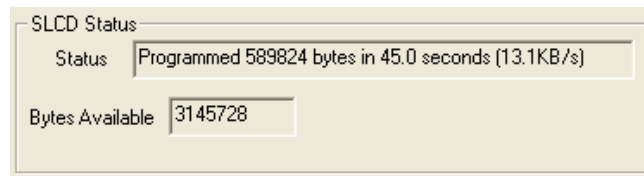

Figure 2-12
Step 7 - (If Required) If the connection in Step 5 is successful, click on the button “**Store into SLCD**”. When programming is complete, the SLCD Status screen will appear as shown in Figure 2-12.